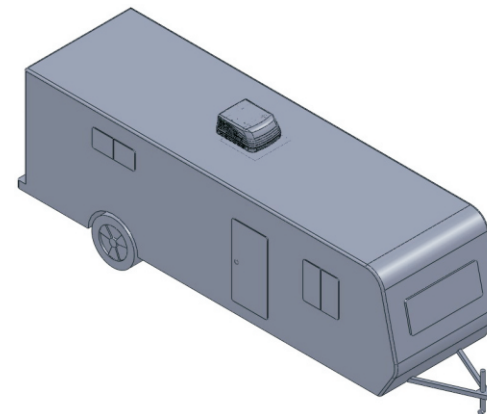

FIGURE 1
- For one unit installation: The air conditioner should be mounted slightly forward of center (front to back) and centered from side to side. See FIG. 1.